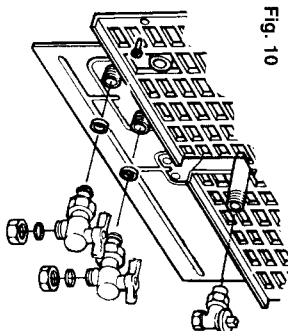

Fig. 10
5.3.4 Loosely fit (hand tight) the valves and fittings using the washers supplied (fig 10)
- 5.5.17** Referring to fig 10 fit the large maintenance clips into position and secure the clip screws.
- 5.6.1** Figs 10 and 14 show the locations of the fittings.